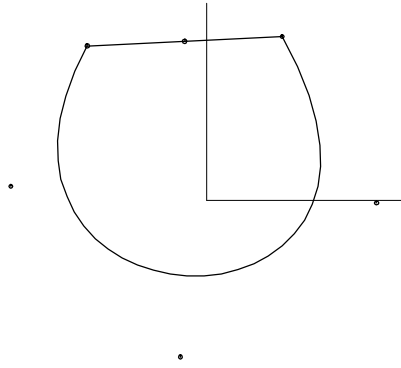

Fig. 3
- 5 **Select 'pt1'** and **'pt5'** and make a line between them (see Fig. 3 below).